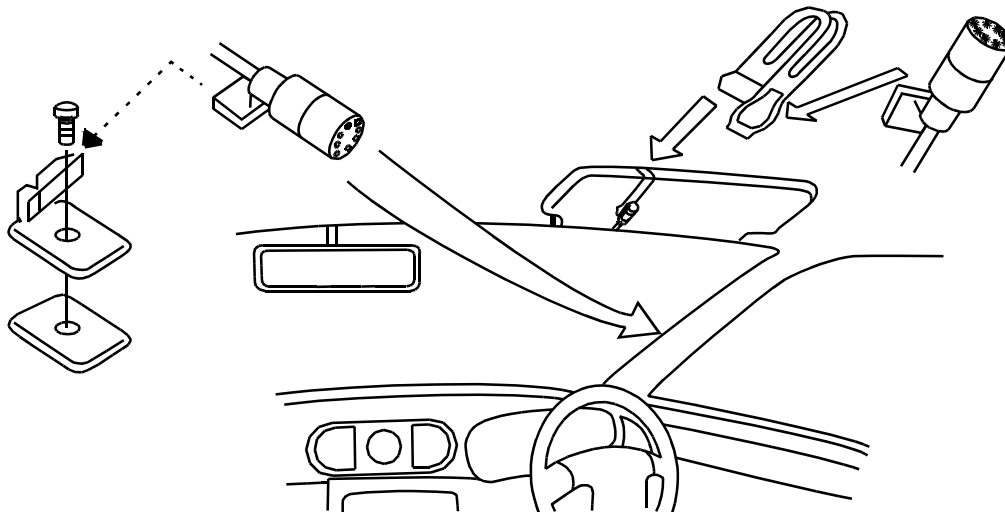

Figure:5 Microphone Installation
2. Mount the microphone onto the sun visor as shown in figure 5.